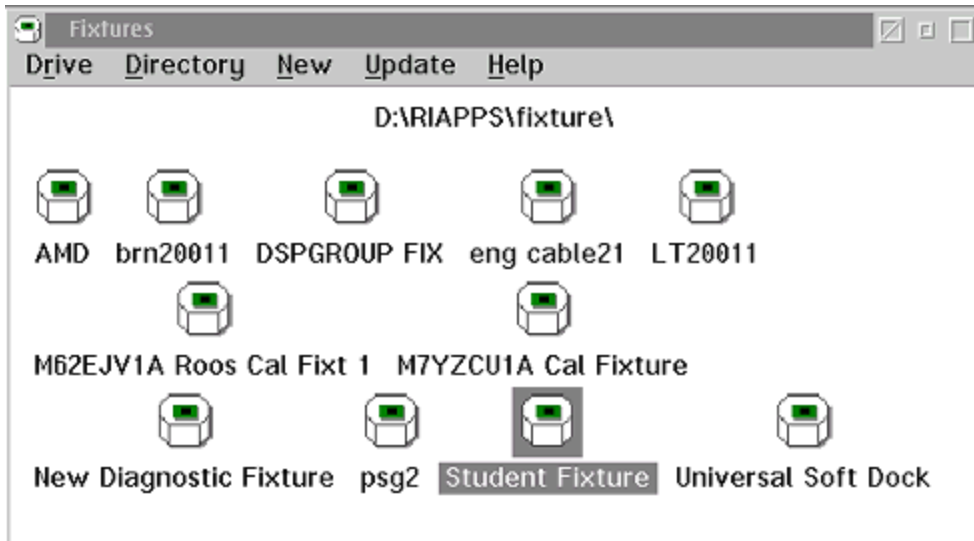

Figure 2
3. Activate the newly created fixture found in the **Fixture** window. Make sure that the intended fixture is highlighted in red (Fig. 2).